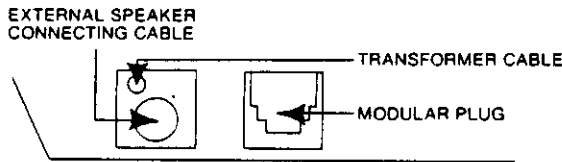

FIGURE 6 — REAR VIEW EKT EXIT PORTS WITH EXTERNAL SPEAKERPHONE CABLES
3.1.1 Feed the sixteen wire cable into the EKT through the exit port in the rear wall of the EKT case. See Figure 6.
3.2 Feed the transformer cable into the EKT through the exit port. See Figure 6.